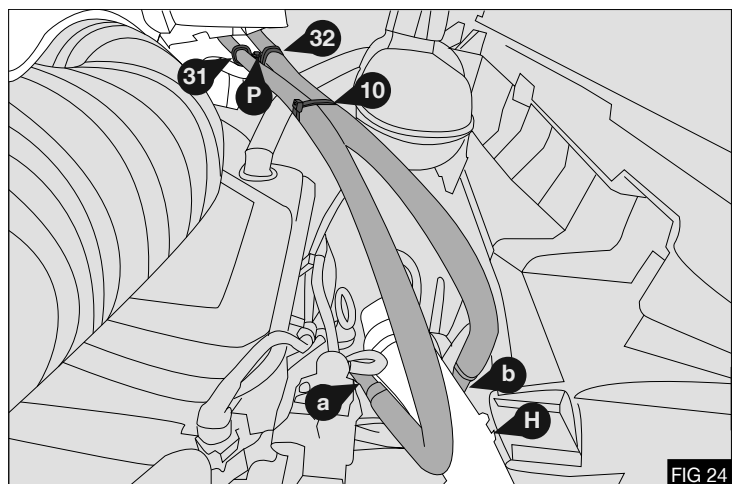

FIG 24
3. Secure the hoses (a) & (b) to the air intake using the original screw (P) and p-clips (31) & (32) along with cable tie (10) - Fig 24